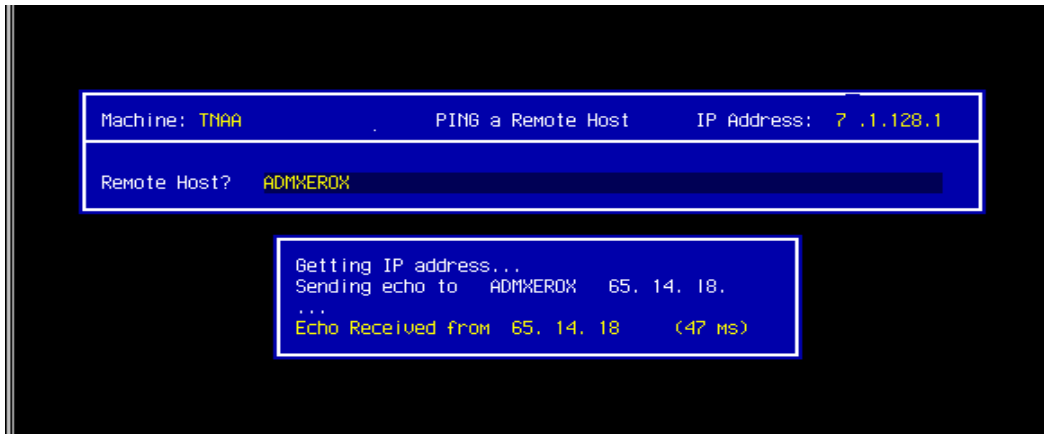

Figure 5: Ping a Remote Host
- From the Manage Open Systems menu under UDP/ICMP options, select option 22, [PING a Remote Host]. Type in the host name of the printer that you used in the Enter/Edit Remote printers screen. See Figure 5.